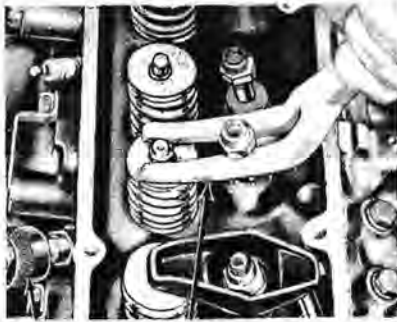

FIG. 29—Compressing Valve Spring—In Chassis
6. Install the stud nut and position the compressor tool as shown in Fig. 29. Compress the valve spring and remove the retainer locks, spring retainer and valve spring.